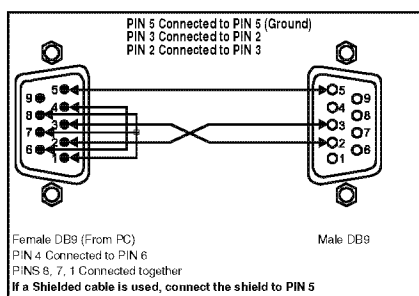

Figure 3: Connecting a PC without using a Null-modem Adapter
- Connect the RS-232 9-pin D-sub port on your PC to the RS-232 9-pin D-sub rear panel port on the Master **SG-6005xl** unit, as Figure 3 illustrates